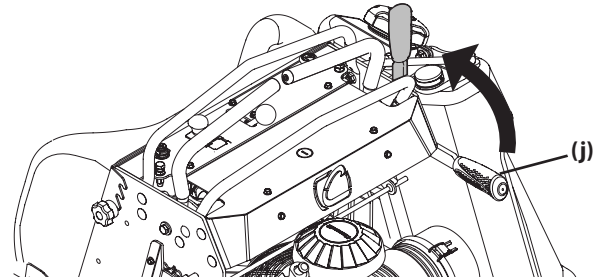

Figure 3
6. To engage the parking brake, pull back completely on the parking brake lever (j) See Figure 3.